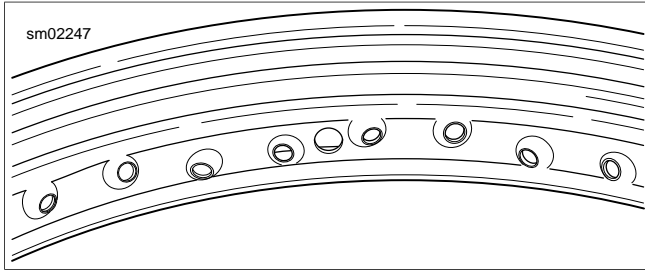

Figure 2-32. Valve Stem Hole Location
- See Figure 2-32. The valve stem hole is centered of the rim; you do not have to worry about choosing the correct relationship between the rim and the hub.